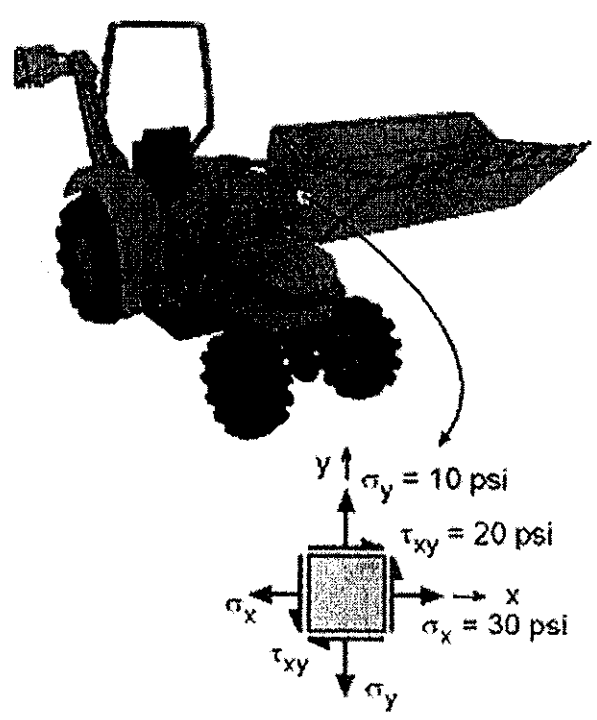

Figure Q5
- Q5. To better understand the stress state for a new tractor, a structural analysis computer program was used to determine stresses in the tractor's front-end bucket. For the location shown (Figure Q5). It was determined that the stresses are $\sigma_x = 30$ psi, $\sigma_y = 10$ psi, and $\tau_{xy} = 20$ psi.